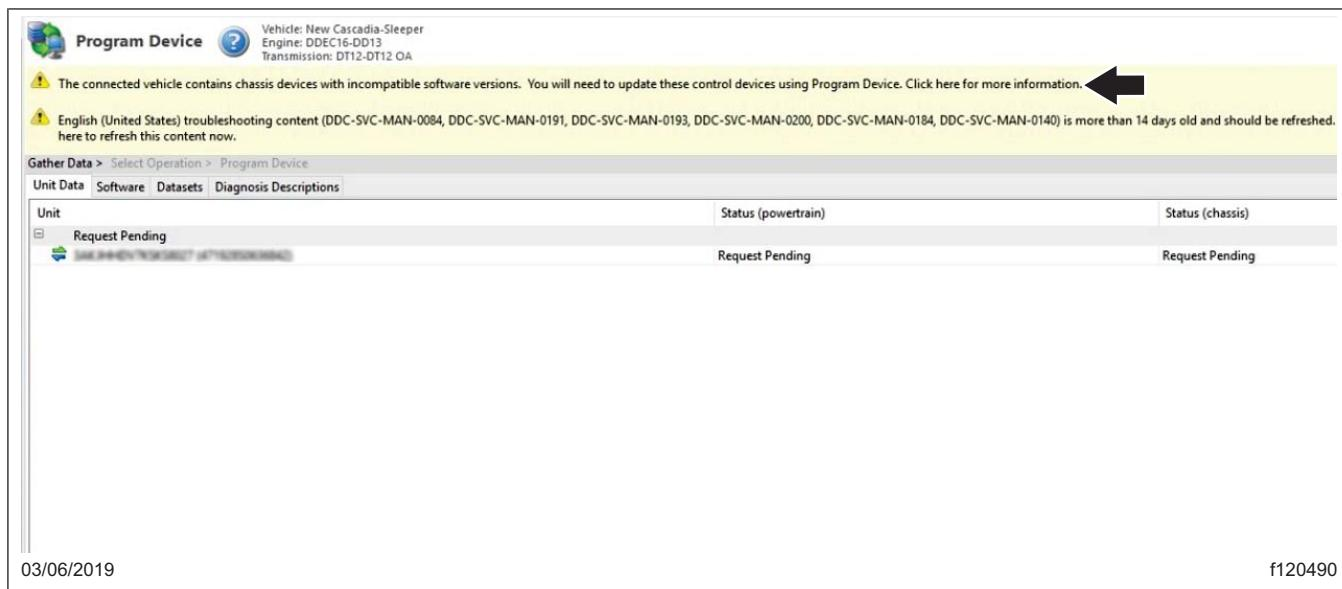

Fig. 12, Clicking on the Banner Message
13.1 Click on the banner message. See Fig. 12.